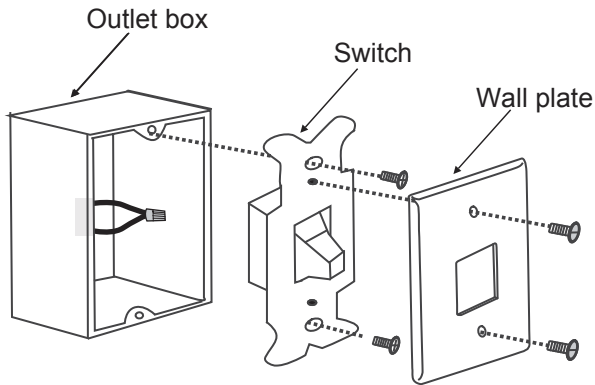

Fig. 19
Step 1. Remove the existing wall plate and the old switch from the wall outlet box. (Fig. 19)